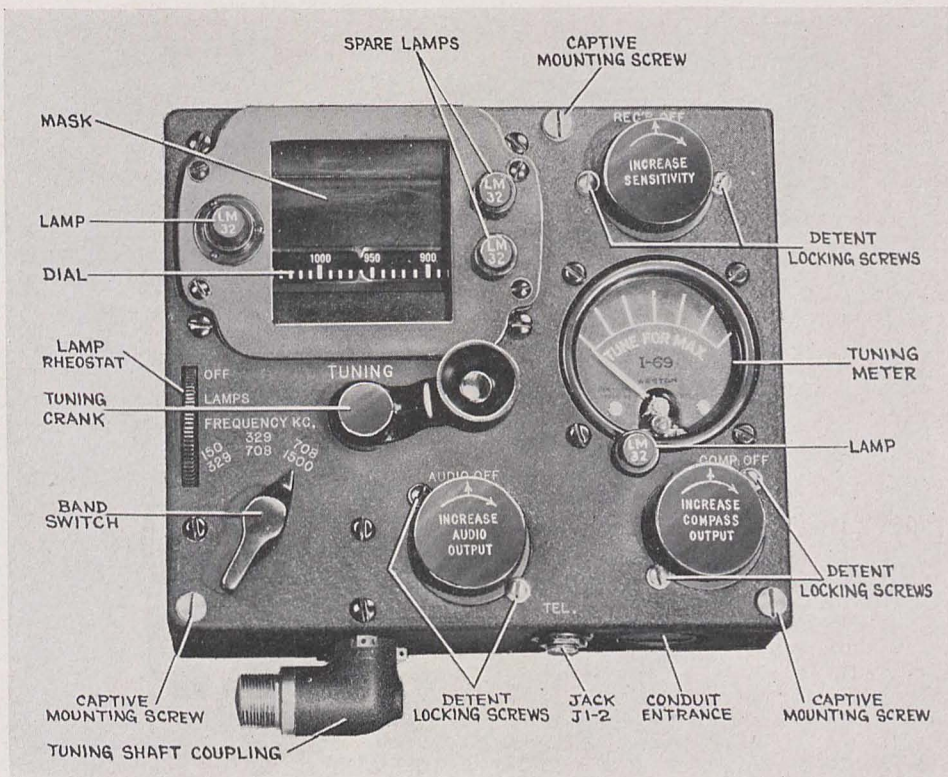
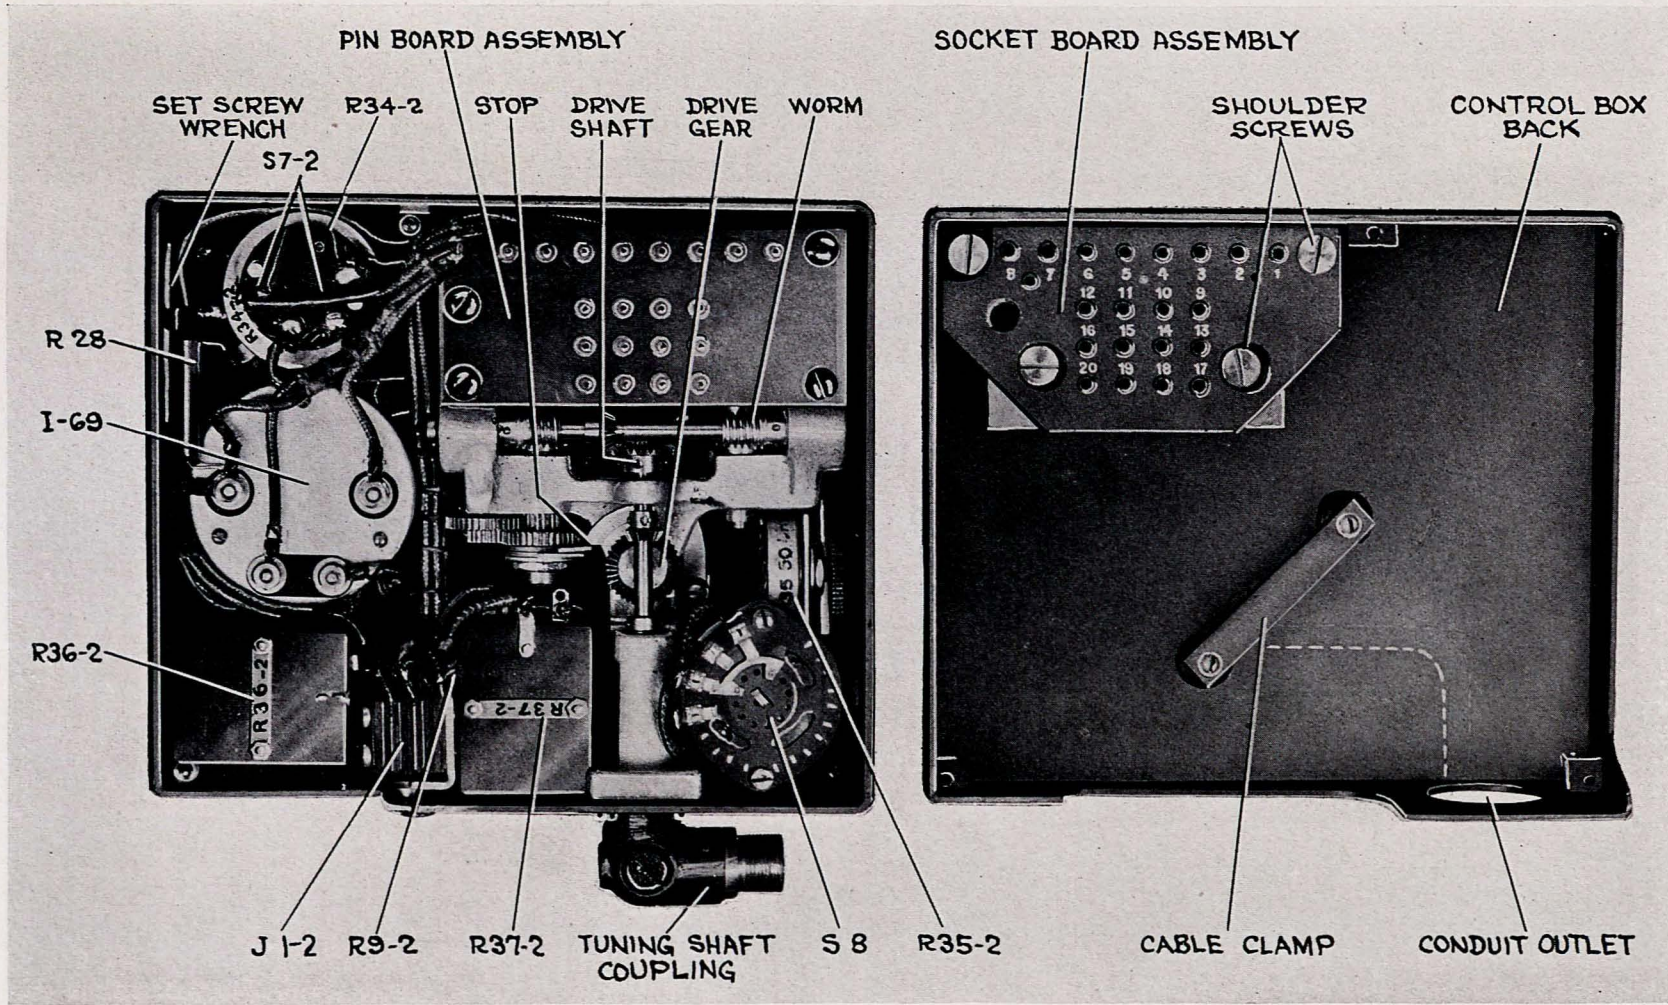

Figure 10—Radio Control Box BC-311-A, Exterior
Figure 11—Radio Control Box BC-311-A, Interior
a. **General.**—This box contains all remotely operated controls of Radio Compass Unit BC-310-A and is constructed for mounting in a rigid conduit system. (See Figure 10.) This box is in two sections. The panel containing the controls is a complete unit and is attached to the back mounting plate by means of three captive screws indicated in Figure 10. The rigid conduit is attached to the back mounting plate and electrical connections are made to the panel by means of a plug-in arrangement. (See Figure 11.)